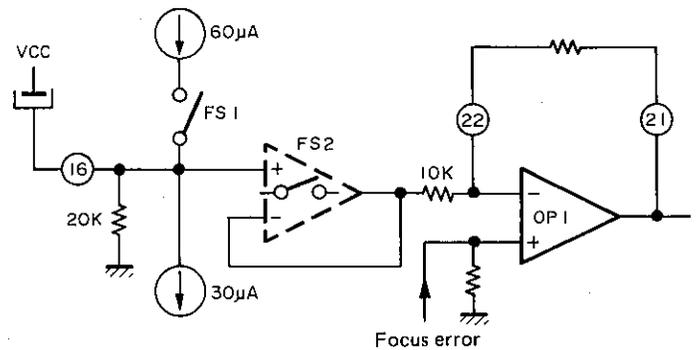

Fig. 6-3 Explanation of FS1, FS2
The operation of FS1, FS2 is described next. ⑳, ㉑ etc. in Fig. 6-3 indicate terminal numbers of CXA1244S (same hereinafter) OP1 is the operational amplifier for focus servo and the output of FS2 is connected to its inversion terminal. FS2 is such a switch that is ON and works as a usual voltage follower at the time of 1; and that its output is of high impedance at the time of 0. FS1 is a simple current switch which is OFF at the time of 1 and works to allow flow of 60μA at the time of 0. This value of 60μA is what is obtained when 240μA is fed to ISET ⑭ terminal. The voltage for focus search is produced using these FS1, FS2.